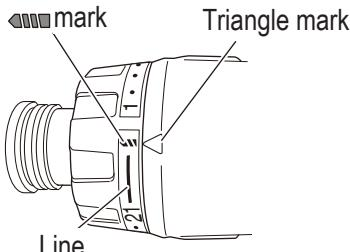

Fig. 14
- Do not use with the clutch dial numeral between "21" and the black line at the middle of the drill mark. Doing so may cause damage (Fig. 14).